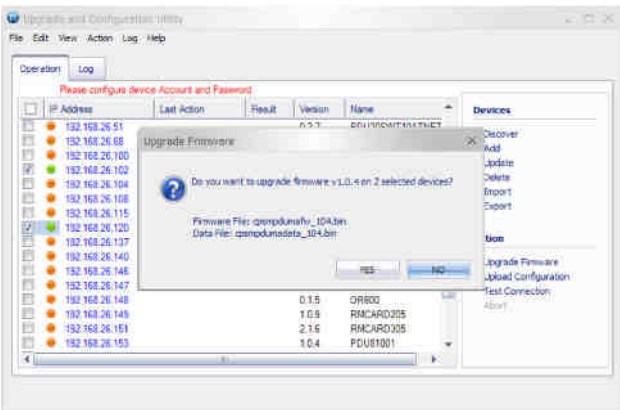

Figure 5
8. Click **OK** in the **Upgrade Firmware** confirmation window (Shown in Figure 5).